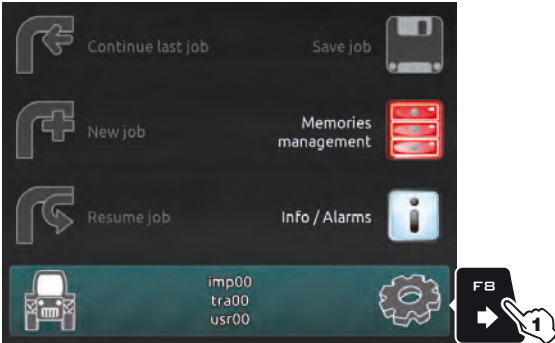
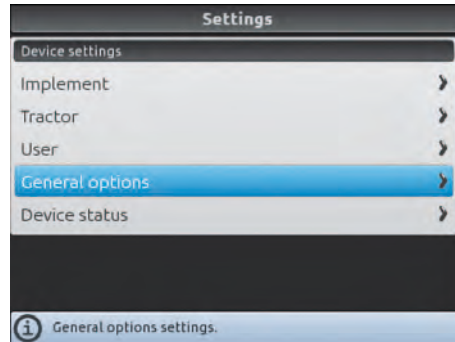

Fig. 43
Fig. 44
- In the "Home" screen (Fig. 43) press **FB** to enter the **Settings** menu (Fig. 44).